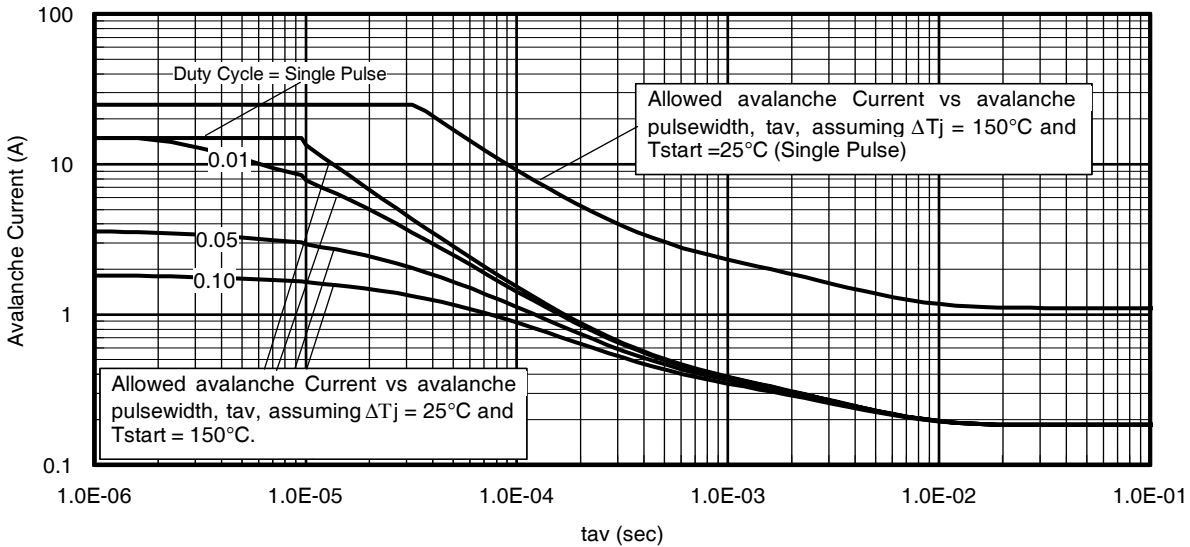

Fig 14. Typical Avalanche Current Vs. Pulsewidth
- ① Repetitive rating; pulse width limited by max. junction temperature. ④ R_{θ} is measured at T_J of approximately 90°C .
② Starting $T_J = 25^\circ\text{C}, L = 1.00mH, R_G = 25\Omega, I_{AS} = 15A$. ⑤ Limited by T_{jmax} . See Figs. 14, 15, 17a, 17b for repetitive avalanche information
③ Pulse width $\leq 400\mu s$; duty cycle $\leq 2\%$.
Notes on Repetitive Avalanche Curves, Figures 14, 15:
7. ΔT = Allowable rise in junction temperature, not to exceed T_{jmax} (assumed as 25°C in Figure 14, 15).